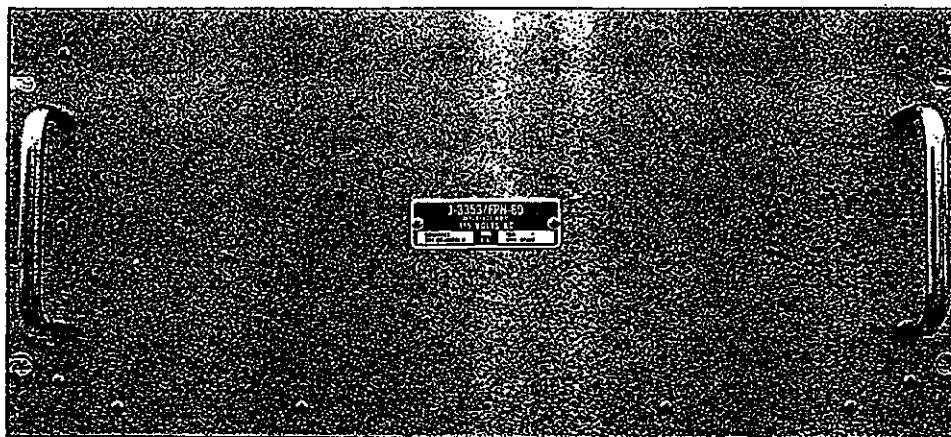

Figure 1.8. 1A9-Interface Unit (J-3353/FPN-60(V))
1.3.6 Interface Unit (1A9). The Interface Unit (Figure 1.8) is the unit through which all signals among the AN/FPN-54A Loran Timing Set and the Pulse Generators (PGENs) are routed. In addition, all signals among the units of the Transmitter Control Set (except those of the Waveform Panel) are routed to this unit. The Interface Unit also performs impedance matching, muticoupling, and signal isolation.